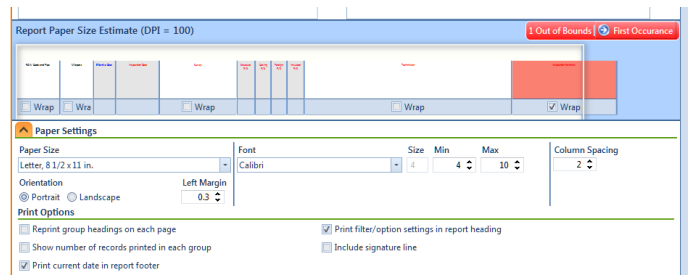

Figure 16-34. Out of Bounds Warning
- c If the adjustment extends report columns outside of the page, a red "out of bounds" message displays (Figure 16-34). Click and drag the column boundary to make adjustments as needed to clear the message.